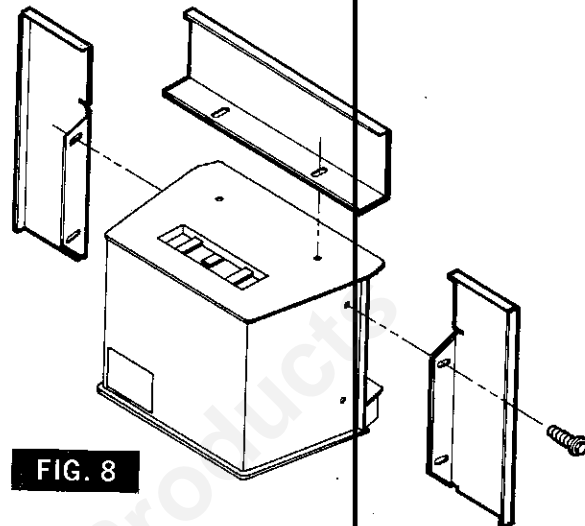

FIG. 8
7. Mount the trim panels using a 3/8" or adjustable wrench and the (6) 1/4-20 self threading screws provided. (Fig. 8).